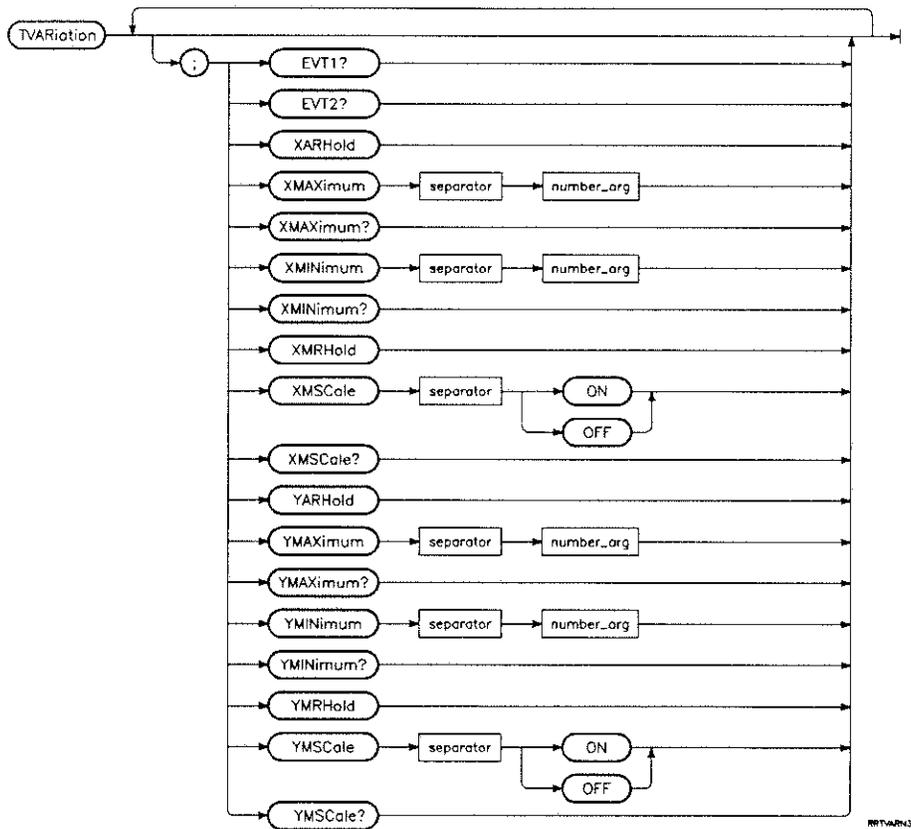

Figure 5-7. GRAPHic Subsystem, TVARiation Sublevel Syntax Diagram
- Time Variation (*Figure 5-7*)